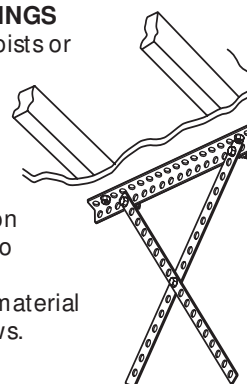

Figure 6 Mounting methods for open beam and finished ceilings. (Check power outlet locations.)
- B** Find location of ceiling joist or truss above where Opener Power Head will be and estimate type and quantity of materials needed for your installation (**Figure 6**).